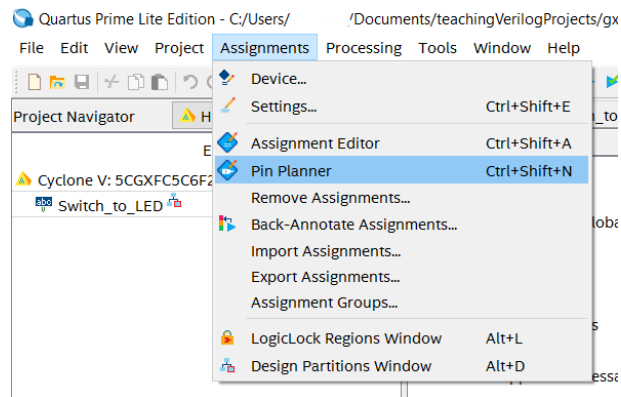
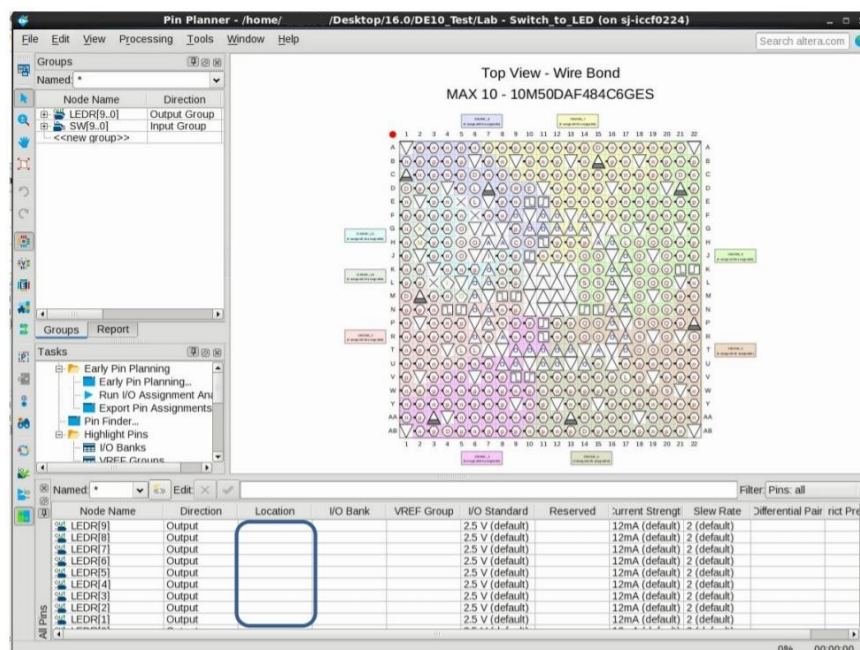

Figure 11: Quartus Assignments menu
Figure 12: Pin Planner Assignment window
- ☐ Using the main toolbar at the top of the Quartus window, navigate to the **Assignments** dropdown menu as shown above in Figure 11. Click on **Pin Planner** and a window similar to the image in Figure 12 should open.